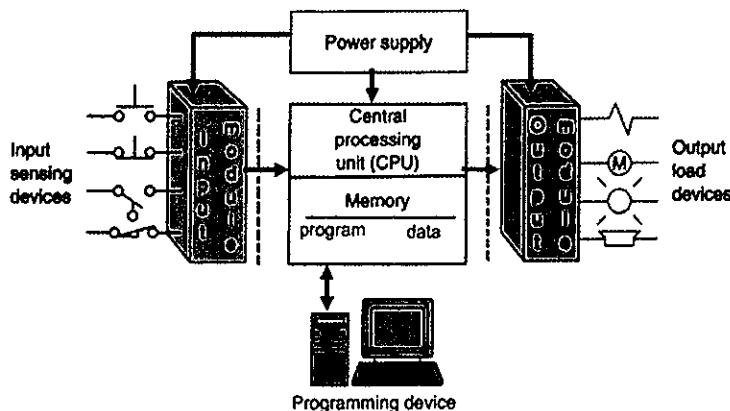

Figure A3(a)/Rajah A3(a)
- CLO1 a) Figure A3(a) shows the PLC block diagram. Briefly explain the function of the Power Supply, CPU, Memory, Input Module, and Output Module.
- CLO1 b) By referring to Table A3(b), visualize the input device and output device in the PLC wiring using the sinking (NPN) technique, as shown in Figure A3(b).